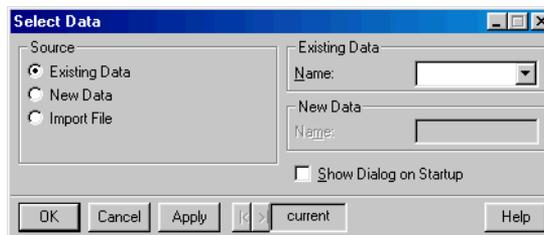

Figure 2.5: The *Select Data* dialog.
1. From the main menu, choose **Data ► Select Data**. The **Select Data** dialog opens, as shown in Figure 2.5.